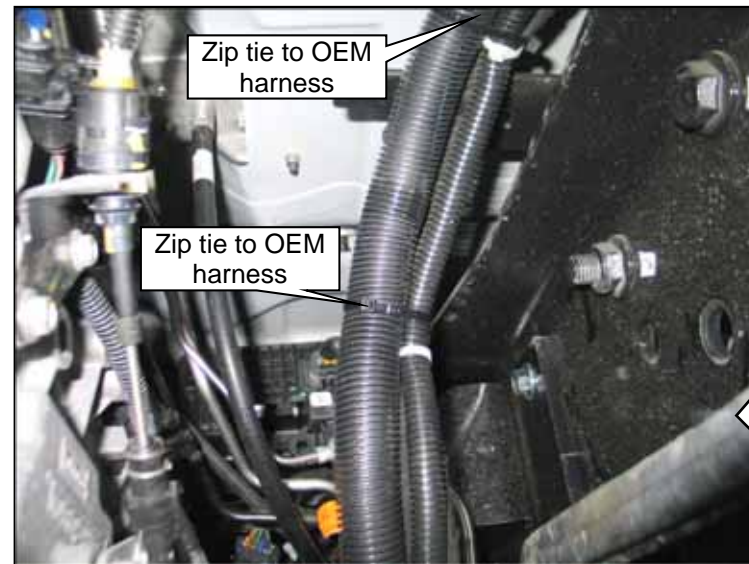

Figure 18.5
13. Follow the OEM chassis harness down and rearward over transmission support crossmember. **Figure 18.5.**